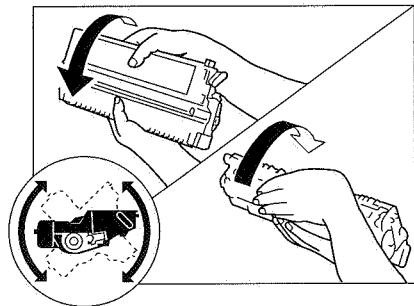

Figure 6-401
- a. Before setting the cartridge to the copier or if white spots appear on the copies as toner runs out, hold the cartridge level as shown in Figure 6-401 and rotate it about 90° in both directions several times to even out the toner inside it. Do not shake the cartridge in ways not instructed, or toner may leak from the developing assembly or the cleaning assembly.